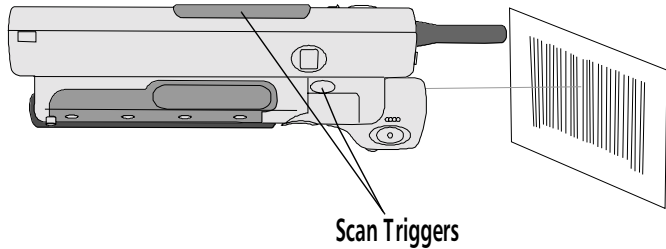

Figure 10. Reading a Bar Code with a Laser Scanner
2. Press one of the PTC's scan triggers to start scanning (refer to Figure 10). The Scanning LED glows red while the laser is active.